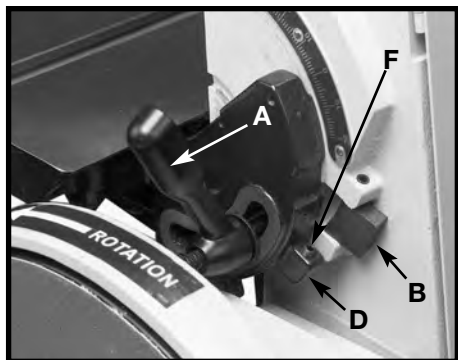
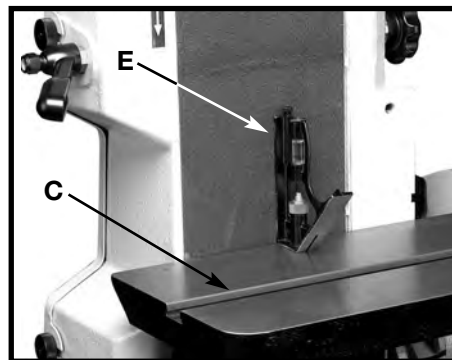

Fig. 23
Fig. 24
1. Loosen the table tilting lock handle (A) Fig. 23, move the stop (B) into position, and rotate the table (C) Fig. 24 until the trunnion (D) Fig. 23 contacts the stop (B). Tighten the lock handle (A). **NOTE:** The lock handle (A) is spring-loaded and can be repositioned by pulling out the handle, moving it, and letting it spring back into position.
2. Place a square (E) Fig. 24 on the table against the belt. See if the table is 90 degrees to the belt.
3. To adjust, loosen the table tilting lock handle (A) Fig. 23. Turn the adjusting screw (F) in or out until table is 90 degrees to the belt.
4. Tighten the lock handle (A) Fig. 23.
5. The adjusting screw (F) Fig. 23 ensures that the belt table can rapidly return to the 90 degree position after the table has been tilted.